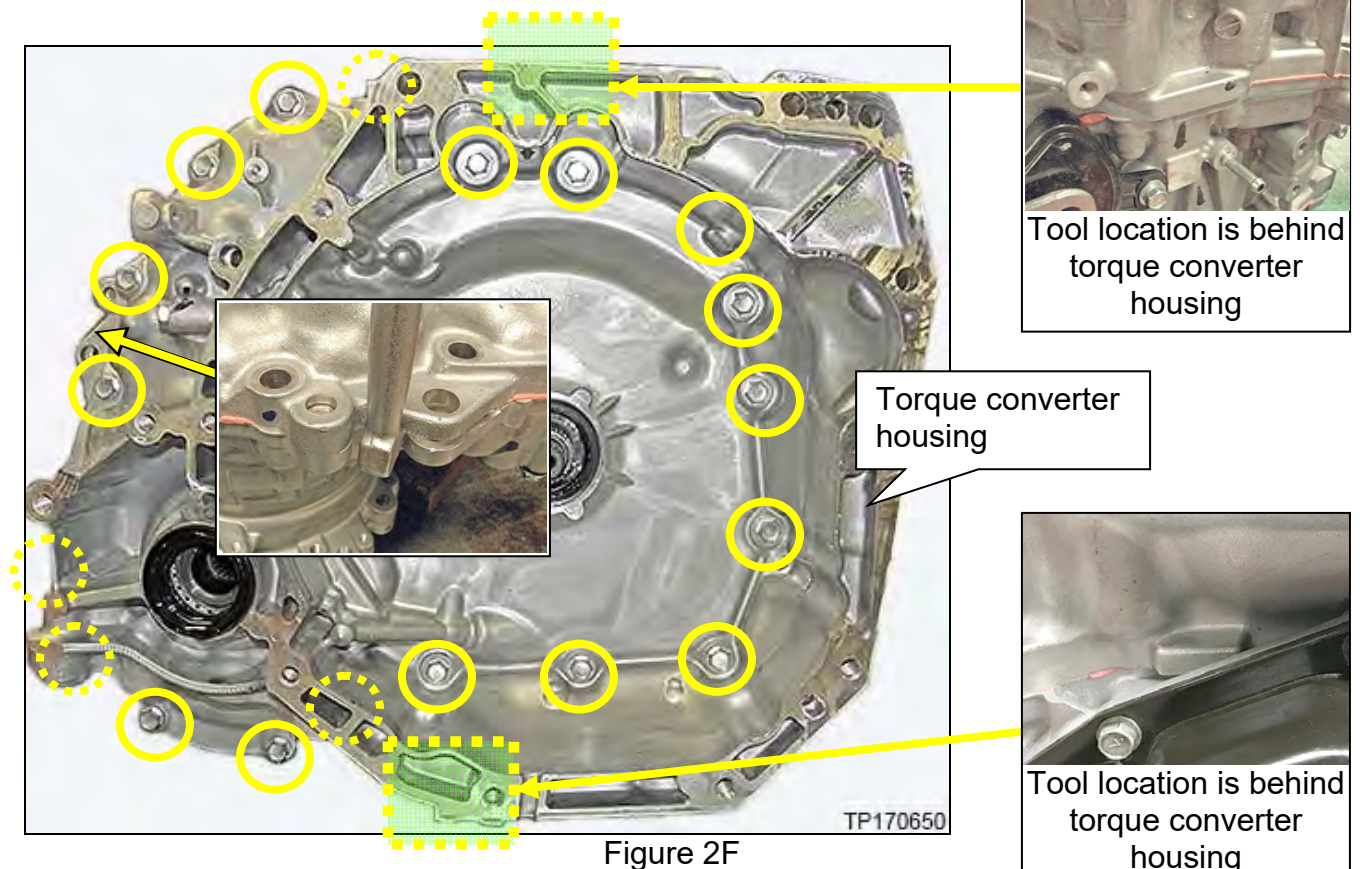

Figure 2F
3. Remove the nineteen (19) bolts shown in Figure 2F from the torque converter housing.
**NOTE:** Some bolts are not visible in Figure 2F. Yellow circles give the general area of bolt locations.
- Use a Slide Hammer (J-25721-A) at the three locations shown in Figure 2F if needed.